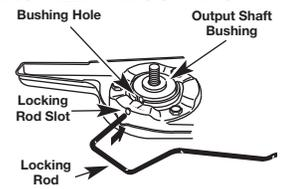
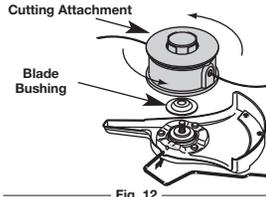

Fig. 7
Fig. 12
1. Align the shaft bushing hole with the locking rod slot and insert the locking rod into the bushing hole (Fig. 7).
6. Align the shaft bushing hole with the locking rod slot and insert the locking rod into the bushing hole (Fig. 7).
5. Align the shaft bushing hole with the locking rod slot and insert the locking rod into the shaft bushing hole (Fig. 7). Place the blade retainer on the output shaft with the flat surface against the output shaft bushing (Fig. 12). Screw the cutting attachment counterclockwise onto the output shaft. Tighten securely.
NOTE: The blade retainer must be installed on the output shaft in the position shown for the cutting attachment to work correctly (Fig. 12).